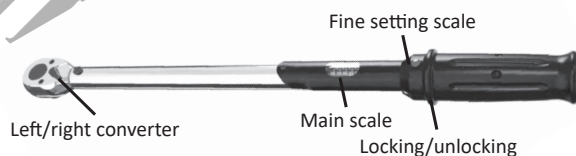

Fig. 1
- The torque wrench is now set to 60 Nm (Fig. 1).